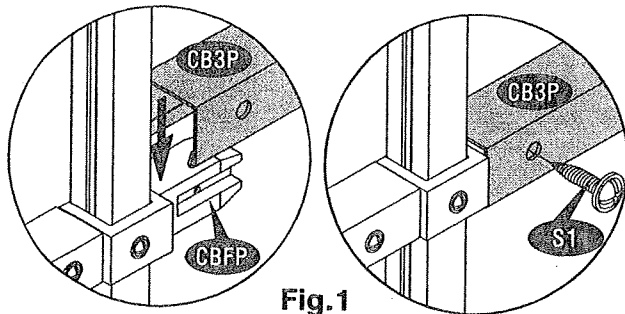

Fig.1
53. Fix the Center band (**CB3P**) to the Center band fitting (**CBFP**) with (**S1**) screw. See fig.1